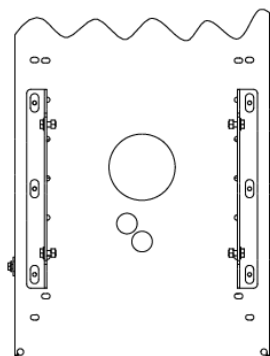

Figure 16 - Mounting Brackets in Position B
2. Using the hardware provided, assemble the two brackets to the back cover as shown in Figure 16. Note that the brackets are mounted so that the angles of the brackets are mounted to the inside. Do not fully tighten these bolts.